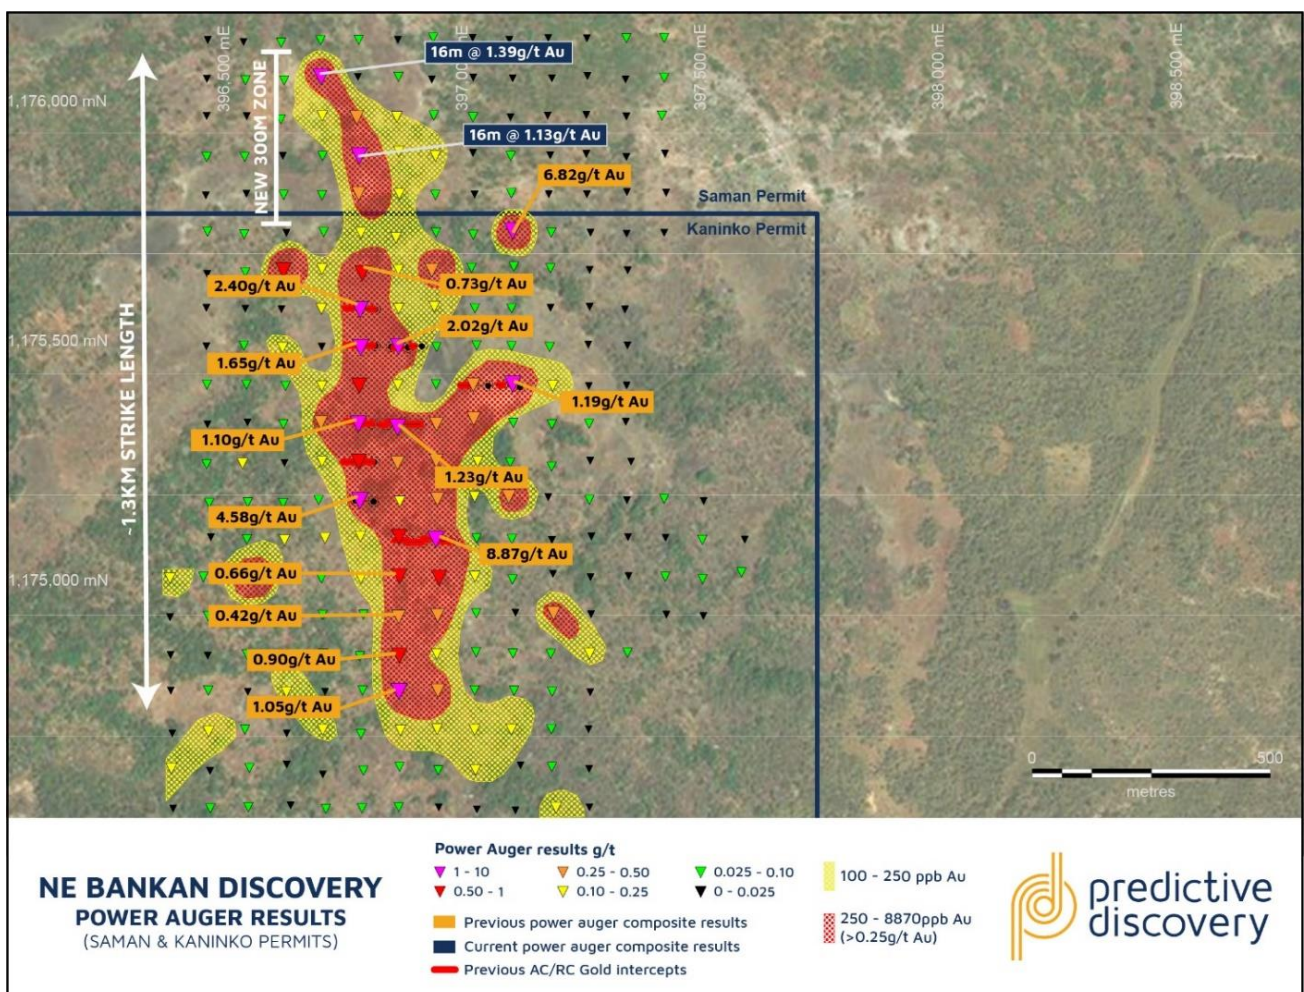

Figure 1 – NE Bankan Discovery, with new auger drilling extending the gold mineralised footprint 300m north into PDI's neighbouring Saman Permit
- » A 5-line (65-hole) auger program has successfully extended the NE Bankan Discovery by a further 300 metres, growing the combined strike length to approximately 1.3 kilometres on both the Kaninko and Saman Permits (Figure 1).
65-holes (totalling 1,300m) were completed on an 80m x 80m grid. Holes were drilled to a depth of 20m and samples assayed in 2m intervals. The drill holes penetrated through the overlying laterite into mottled clay and saprolite with a series of gold-anomalous results obtained. All results are reported in Table 1 and shown on Figures 1 and 2. The drilling program was undertaken by Sahara Mining Services and the samples were assayed by fire assay at the SGS laboratory in Bamako, Mali